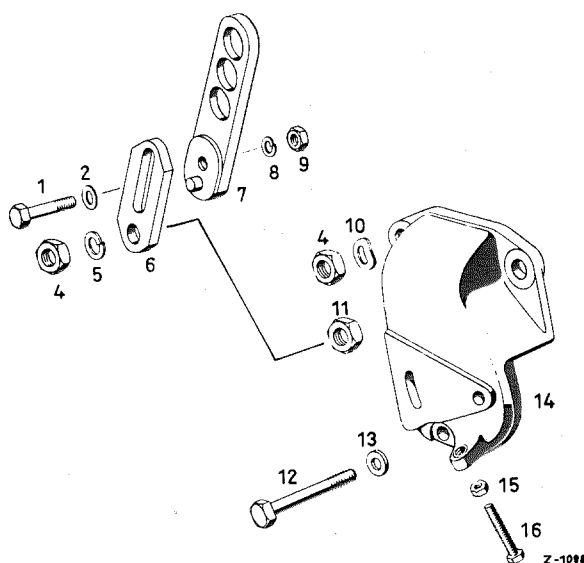

Figure 20-15/2
3. Unscrew the fixing screws (2) and remove the fan bearing bracket (see Figure 20-15/1).
4. Unscrew the hex nut (1) and the hexagon screw (13). Then remove the mounting bar (11) which serves to tighten the V-belt for generator and water pump (see Figure 20-15/1).
5. Unscrew the two hex nuts (4) and (11) and the hexagon screw (12) which serve to fix the support of the fan bearing bracket (14) to the crankcase and remove the support of the fan bearing bracket from the fixing studs (see Figure 20-15/2).